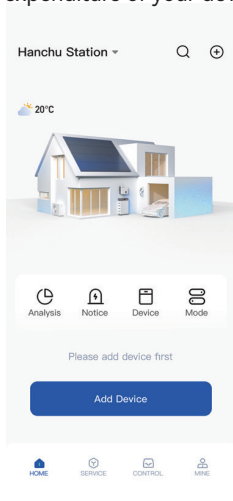

Fig. 4
– Please tap the "Add Device" button , as shown in Fig. 4. Then you can directly turn to **Step b.Network configuration**.